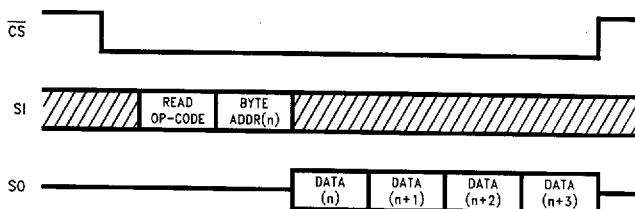

FIGURE 6. Read Sequence
address is automatically incremented and data will continue to be shifted out. When the highest address is reached (FF), the address counter rolls over to lowest address (000) allowing the entire memory to be read in one continuous READ cycle. See Figure 6.